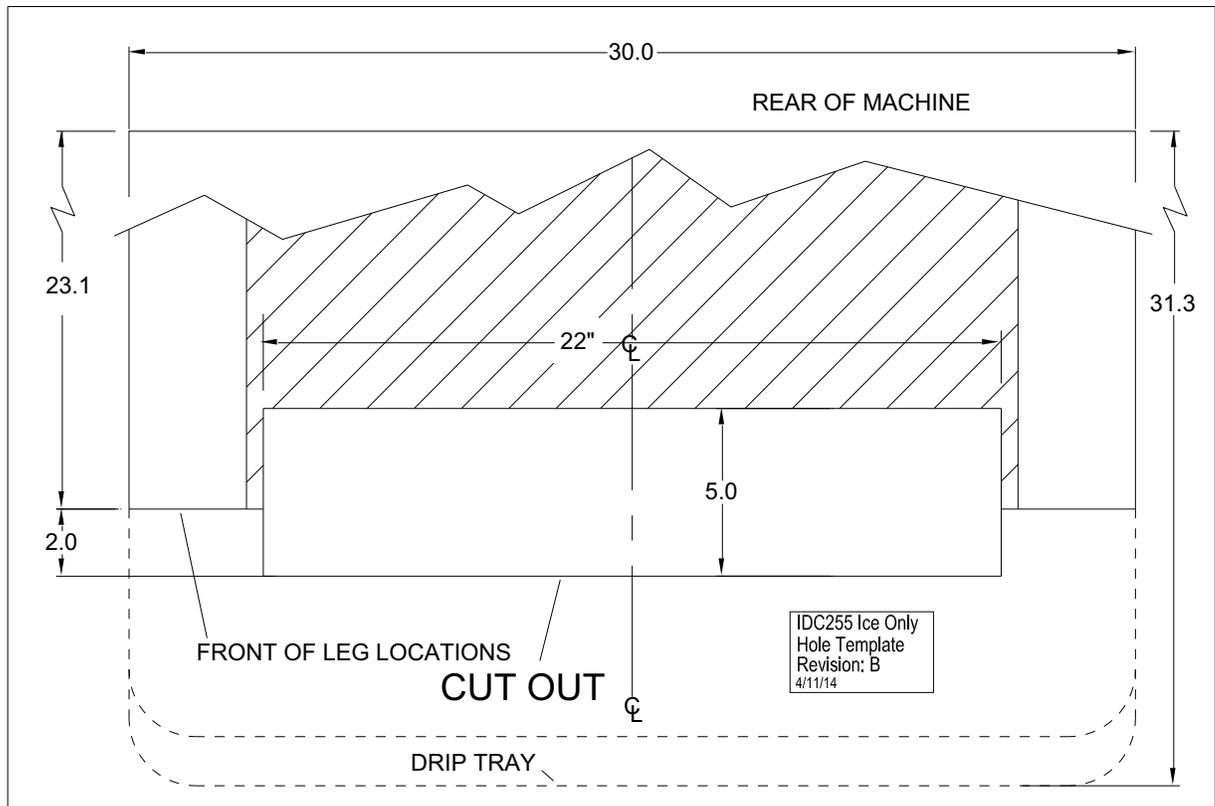

Figure 2. Counter Cutout Template
2. Using the mounting template dimensions (Figure 2) drill the appropriate holes for this application.